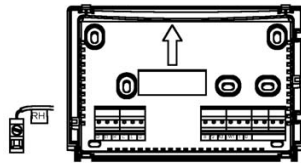

Figure 4.
- Match and connect the labeled wires to the appropriate coded terminal screws on the wallplate. (See Figure 4 and 5.) Ignore any wires which may be present, but which were not connected to the old thermostat.
- If your system is a single stage heat pump and uses an O or B wire, you must move the System Selector switch inside the thermostat to the heat pump (HP) position. If you have a normal furnace or electric system, leave the switch in the Standard (STD) position. Refer to the System Selector section for more information on this switch.